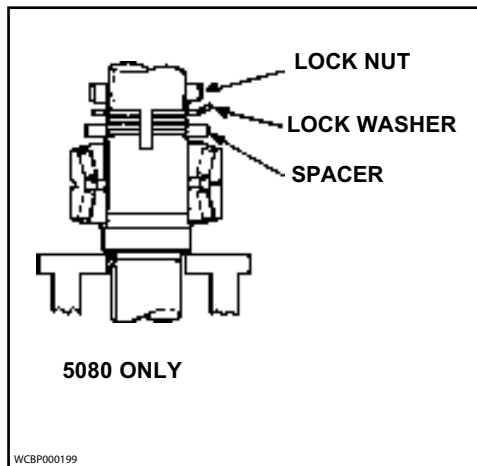

Figure 68 - Install Spacer, Lock Washer and Lock Nut
2. Install the spacer, lock washer and lock nut. Finger-tighten nut, as shown in Figure 68.